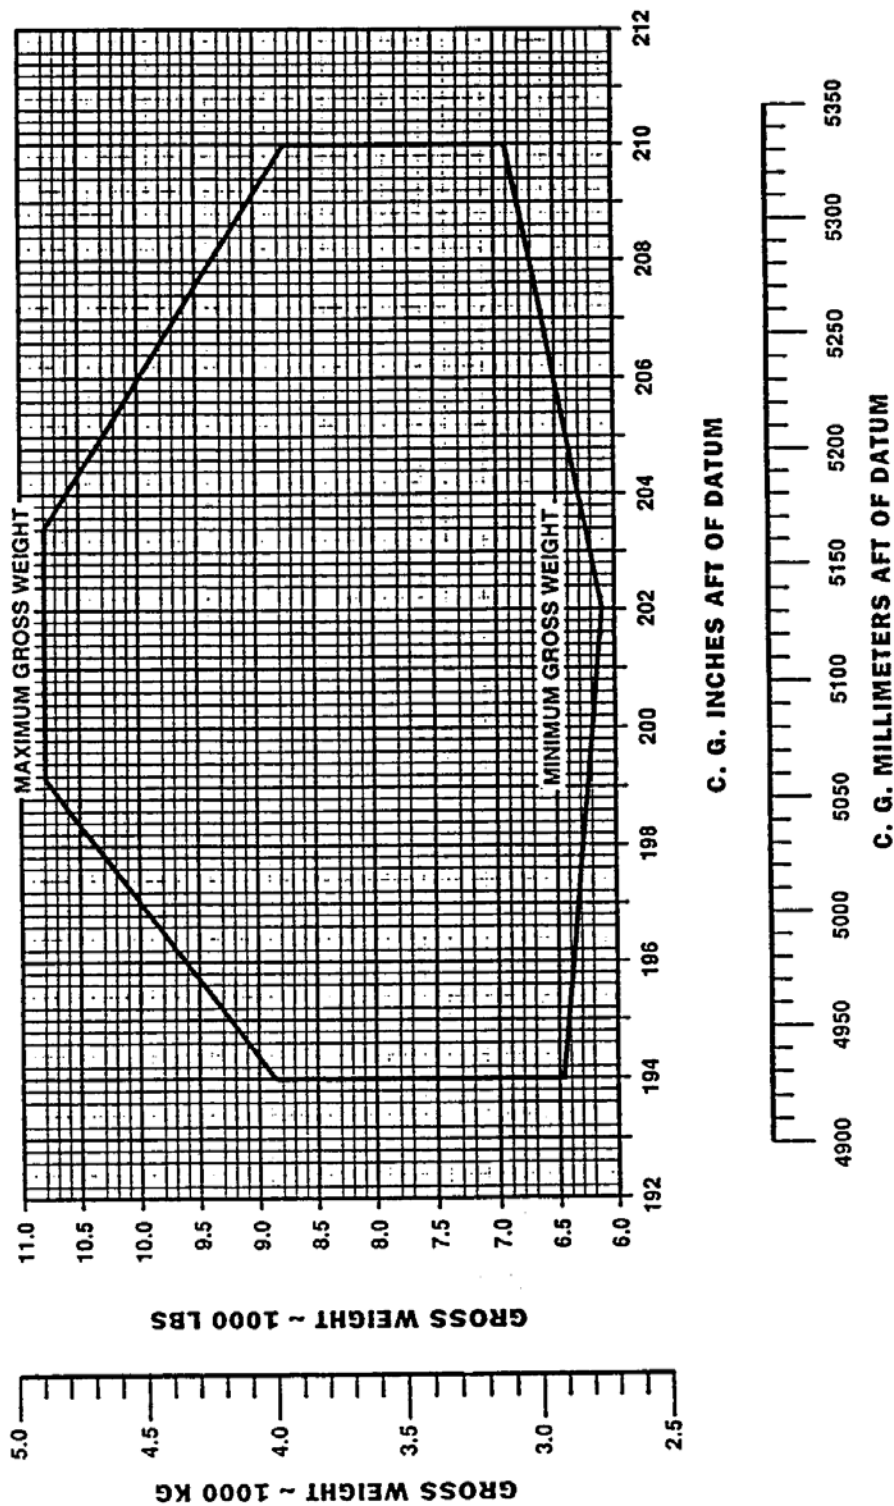

Figure 1.2.1 Centre of Gravity Limits
3. Determine by reference to the Centre of Gravity chart (Figure 1.2.1) that the takeoff gross weight and moment thus obtained is within the recommended weight and CG limits. The aft CG has been adjusted to account for the landing gear retraction moment of plus (+) 838. Therefore, loading based on wheels down conditions which fall within the limiting moments of Figure 1.2.1 will be within CG limits for flight with the landing gear retracted.
- b. determine by reference to the CG chart, Figure 1.2.1, if landing gross weight and moment is within the recommended weight and CG limits. Bring the aircraft weight and/or balance within limits if either the weight or the moment is outside the recommended limits by off loading and/or redistribution of useful load.
See Figure 1.2.1 for forward and aft centre of gravity limits at various gross weights.
Refer to Figure 1.2.1, Section 2, Approved Rotorcraft Flight Manual for longitudinal limits.